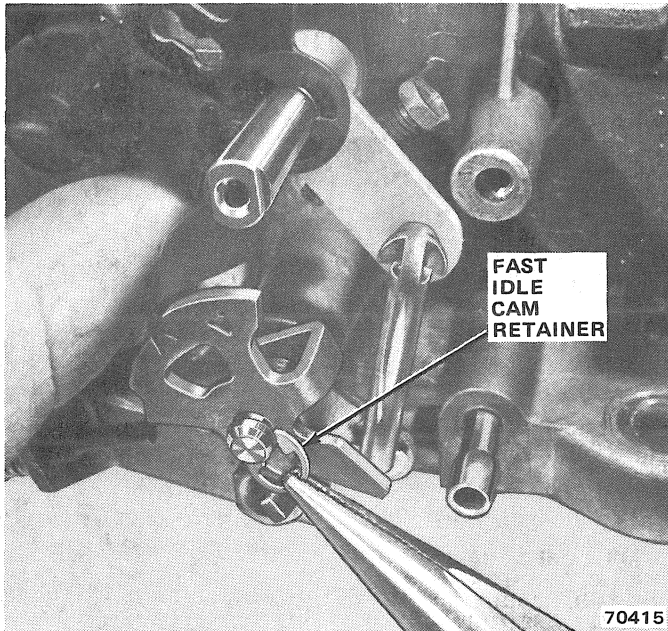

Fig. 1J-124 Fast Idle Cam Retainer
- (1) Remove air cleaner anchor screw.
- (2) Remove automatic choke rod retainer from choke shaft lever.
- (3) Remove air horn attaching screws, lockwashers and carburetor identification tag. Remove air horn and air horn gasket.
- (4) Remove choke rod by loosening screw that secures choke shaft lever to choke shaft. Remove rod and plastic dust seal from air horn.
- (5) Remove choke modulator assembly, if equipped.
- (6) Remove fast idle cam retainer (fig. 1J-124).